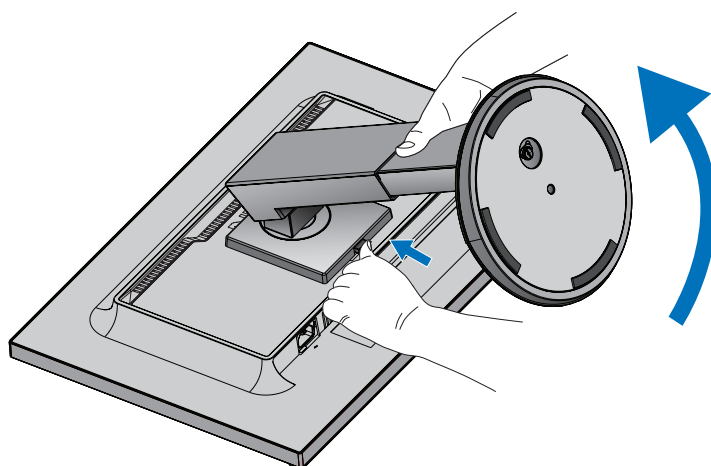

Figure S.1
3. Place the monitor face down on a non-abrasive surface (**Figure S.1**).
4. Place one hand around the base and one hand on the Quick Release Button. Push and hold the Quick Release Button in the direction indicated by the arrow (**Figure S.1**).
5. Lift up the stand to unhook it from the monitor (**Figure S.1**).